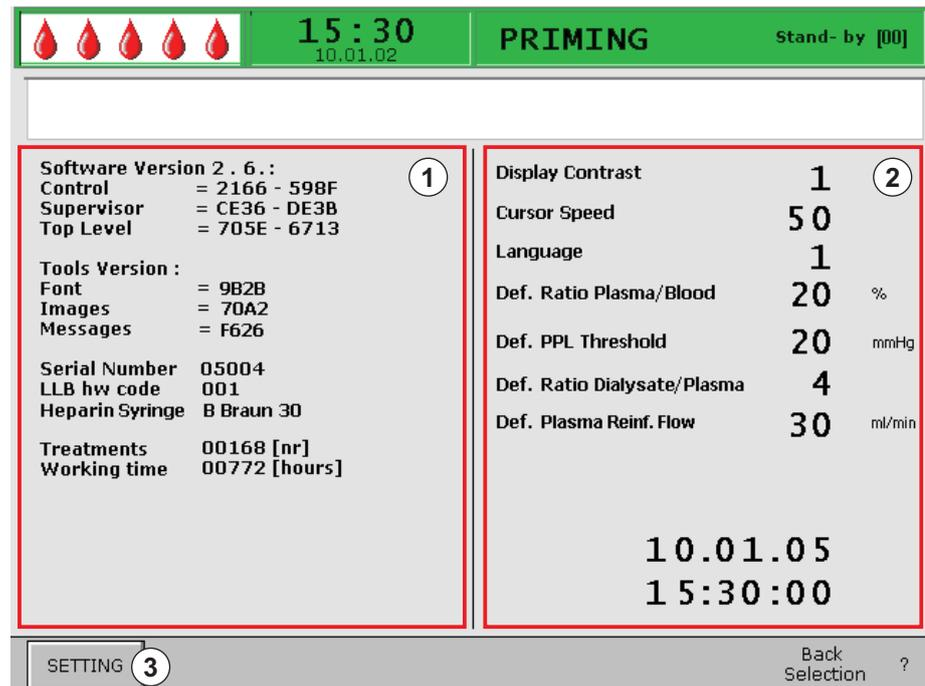

Fig. 4-4 *Settings* screen
- ↪ The *Settings* screen (Fig. 4-4) appears, indicating machine data on left side (①) and default parameter settings on right side (②).